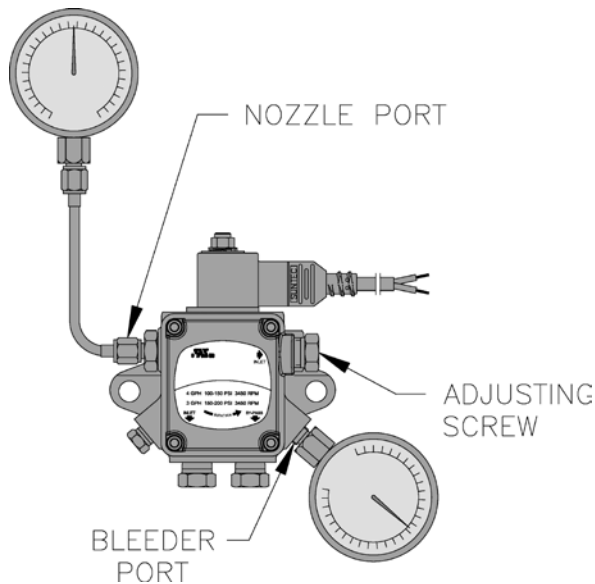

Figure 26: Adjusting Fuel Pump Pressure
- When checking a fuel unit's operating pressure, a reliable pressure gauge may be installed in either the bleeder port or the nozzle port. Refer to Figure 26. Refer to Figure 9 for Riello burner.